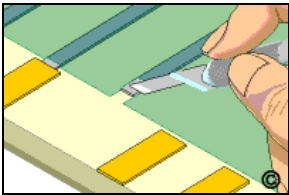

Figure 1: Remove the defective contact and soldermask from the connecting circuit.
1. Remove the defective gold contact and a short length of the connecting circuit, if any. (See Figure 1)
3. Scrape off any solder mask or coating from the connecting circuit and clean the area. (See Figure 1).